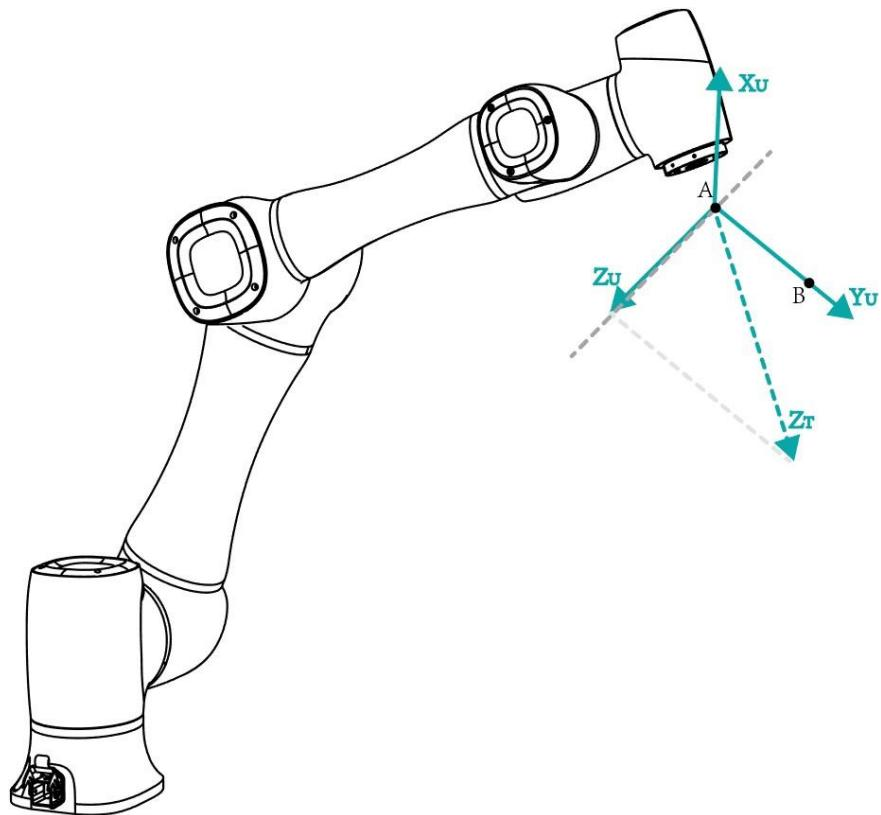

Figure 1.6 Line
- Line: Confirm a straight line by any two points **A** and **B**. The direction from A to B is defined as the positive direction of Y-axis, The Z-axis of Tool coordinate system of which point A is the origin is projected into the vertical plane that confirmed by points A and point B, we can define it as the positive direction of Z-axis. and then the positive direction X axis can be defined based on the right-hand rule. As shown Figure 1.6.